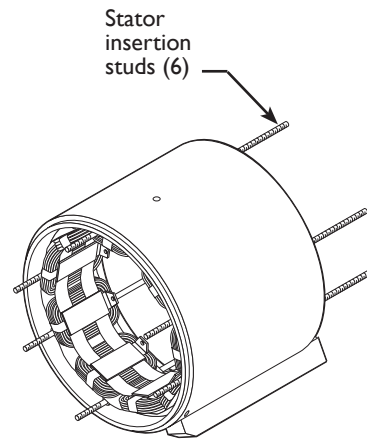

Figure F-1b Stator Insertion Studs
- c. From the anti-drive end, insert 6 insertion studs provided with CEN A10-136 stator insertion tool into new ADE stator. See Figure F-1b.